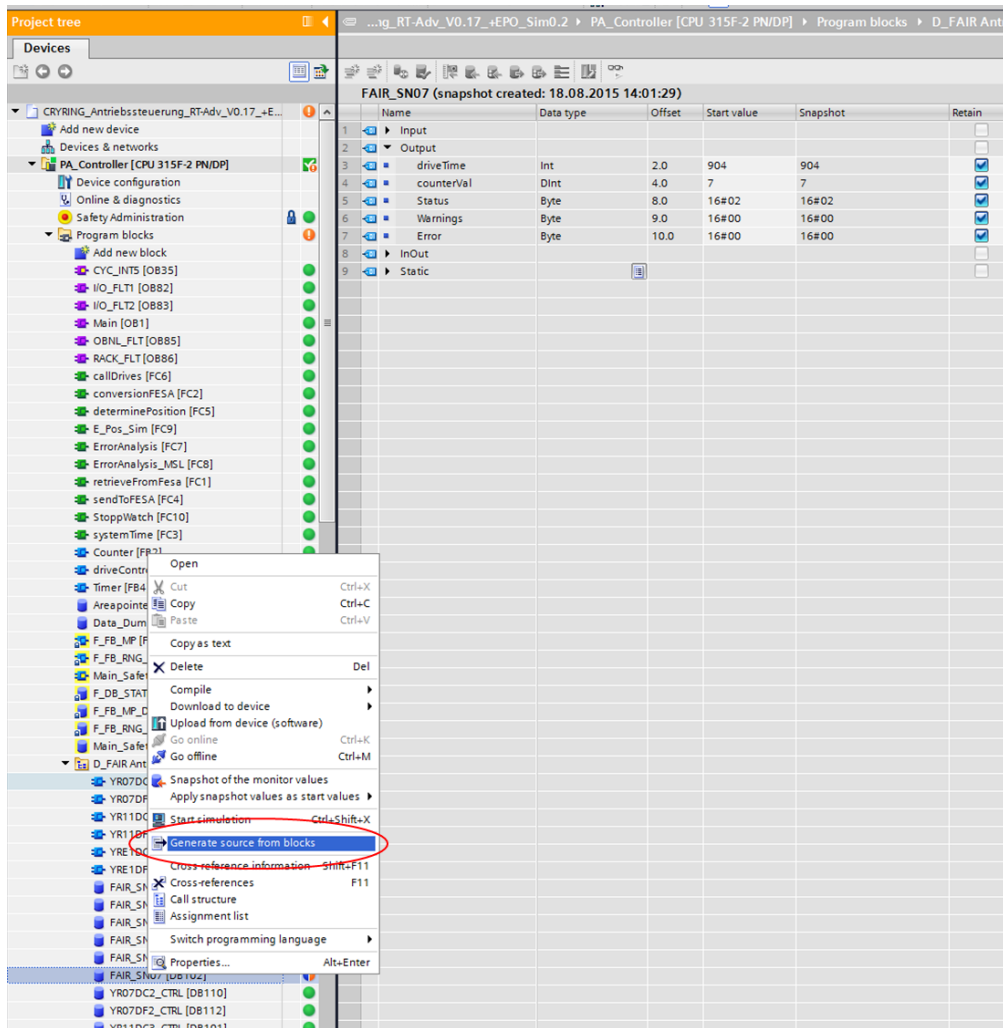

Figure 3: Generate a source file with the DB values
6. Last time, right click on the DB again → Generate source from blocks (Figure 3).